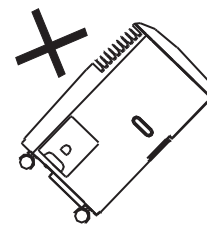

fig. 1
- Always place the unit on a stable groundbase (fig. 1).